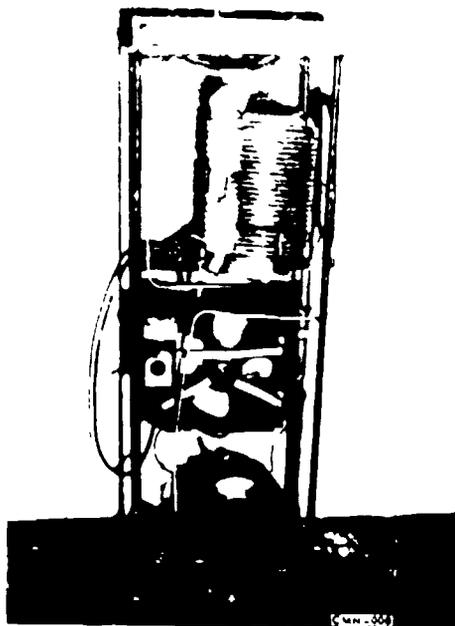

Figure 6. Water Cooler
**WATER COOLERS.** The purpose of the water cooler is to cool drinking water. It is sized according to the amount of water it will cool in one hour. Water coolers come in a variety of sizes and shapes. A typical water cooler is shown in figure 6. The cabinet is sheet metal with a steel frame and top. The condensing unit is located in the bottom half of the cabinet with the water cooling mechanism in the top half. The water cooling mechanism is usually insulated with corkboard, fiberglass, or plastic foam. One or more of the sheet metal side panels are removable for maintenance purposes.